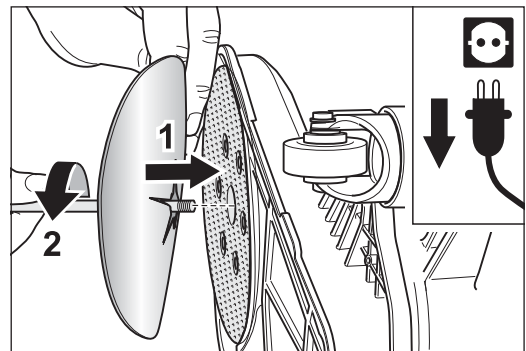

Fig. 18 Mount the new sanding disc (1) and tighten the screw (2).
- 5 Put on a new sanding disc and insert the screw with the paper tensioning disc into the hole of the sanding plate (fig. 18, 1).
- 6 Turn the screw in the sanding plate with the universal spanner (fig. 18, 2). Make sure that the sanding disc is as centred as possible on the sanding plate.